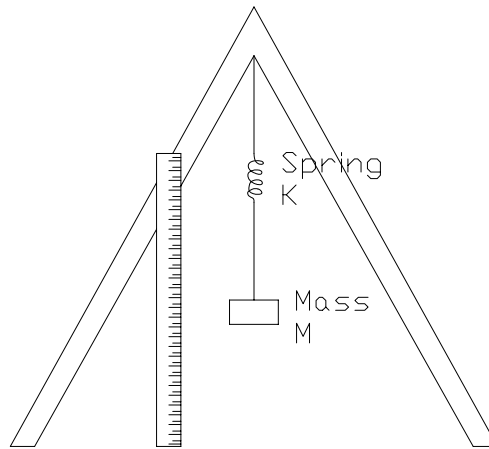

Figure 1 – Mass/Spring System
9. The apparatus for this part of the lab consists of a mass/spring system vertically aligned. Figure 1 shows this system. The vertical scale allows the motion displacement of the mass to be recorded.